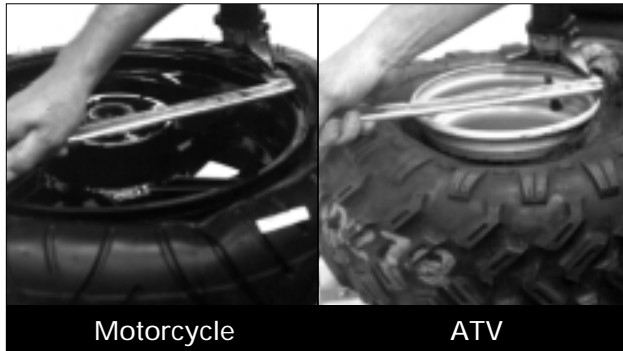

Figure 10 - Lift Bead Over Demount Head
11. Push the bead lifting tool down towards the wheel to lift the tire bead up and over the knob portion of the demount head. The tool may be removed if desired (Figure 10).